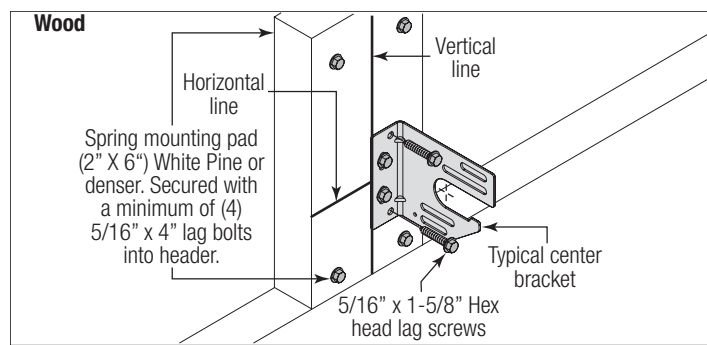
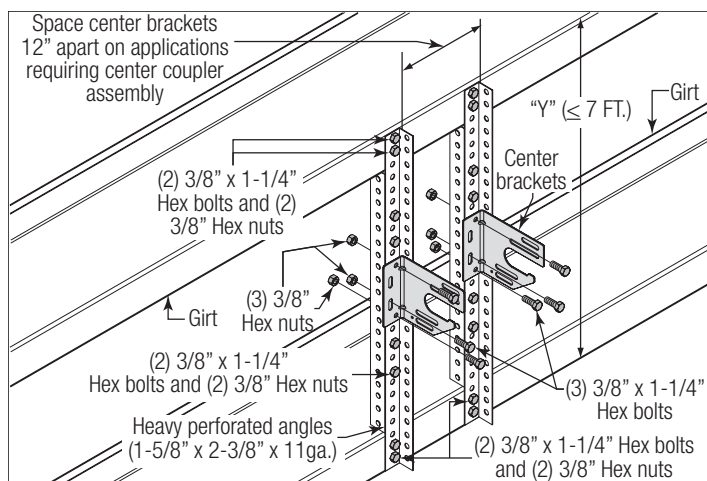

Figure 9
Figure 15
**NOTE:** If your door came with (4) springs or more springs, each of the outer springs mounting surface will need to be a minimum of 3" wide.
**See Figure 9 through Figure 15 for the following steps.**